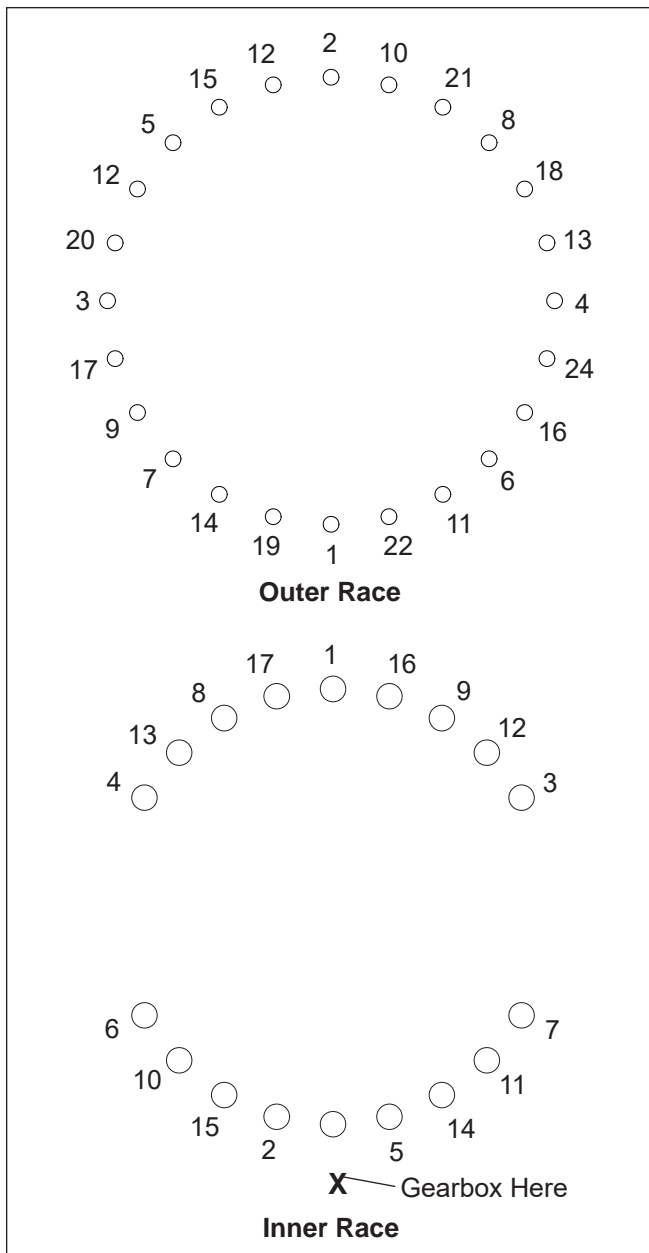

Figure 4.9 — Cap Screw Torque Patterns
1. Retorque according to the appropriate pattern shown in Figure 4.9 for the inner and outer race.